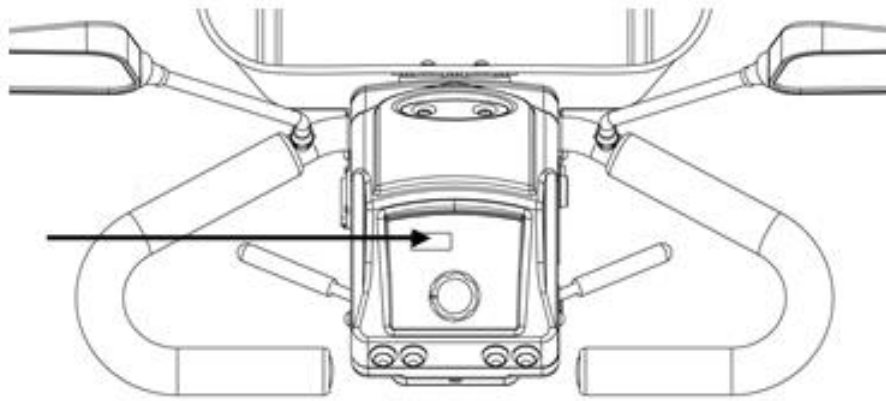

Figure 5.5
5.11.1 When the ignition is turned on, the battery indicator will light up with a possible total of three red, four orange and three green lines indicating the remaining power of the batteries (See Figures 5.5). The positive/plus sign under the green lines indicates that the batteries are fully charged. The negative/minus sign under the red lines indicates that the batteries are (nearly out of or) out of power.